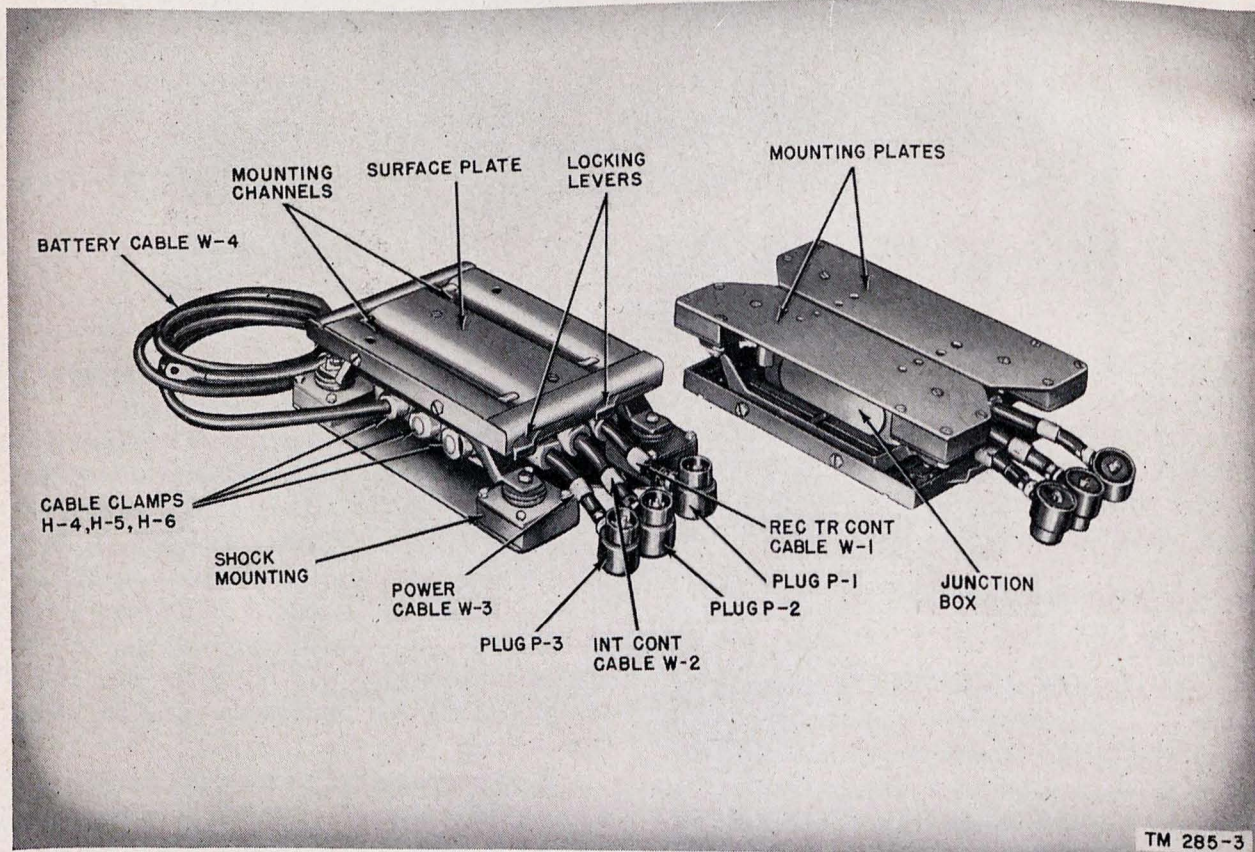

Figure 7. Mounting MT-300/GR.
a. Mounting MT-300/GR (fig. 7) serves as a support for the receiver-transmitter and interphone amplifier, and as a junction box for interconnecting the receiver-transmitter and interphone amplifier with Control Box C-375/VRC. As a
b. At either end of the mounting are two shock-mounted supports which are normally bolted to the vehicular mounting surface. A mounting table is secured to these supports, and a junction box is suspended from the under surface of the table near the center of the unit (fig. 7).